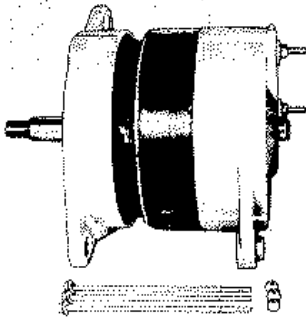

FIG. 7
- Remove rotor and drive end housing assembly from stator and slip ring end housing assembly. If drive end housing binds on stator, loosen by tapping gently on mounting ear with fibre hammer. Be sure that drive end housing separates from stator and that stator remains attached to slip ring end housing to avoid damage to stator leads. (See Figure 7.)